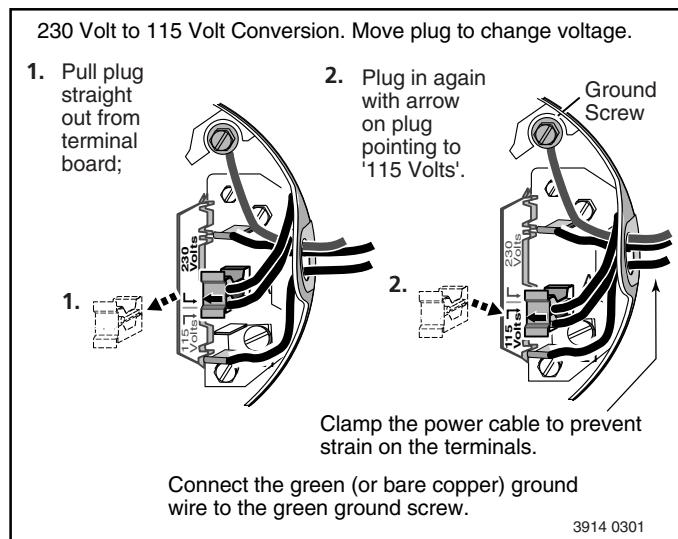

Figure 3 – 115/230V Dual Voltage Single Phase Wiring Diagram
- Step 7. Connect current carrying conductors to terminals L1 and L2 under motor canopy. When replacing motor, check wiring diagram on motor nameplate against Figure 3. If the motor wiring diagram does not match either diagram in Figure 3, follow the diagram on the motor.
- IMPORTANT:** 115/230 Volt single phase models are shipped from factory with motor wired for 230 volts. If power supply is 115 volts, remove motor canopy and reconnect motor as shown in Figure 3. Do not try to run motor as received on 115 volt current.